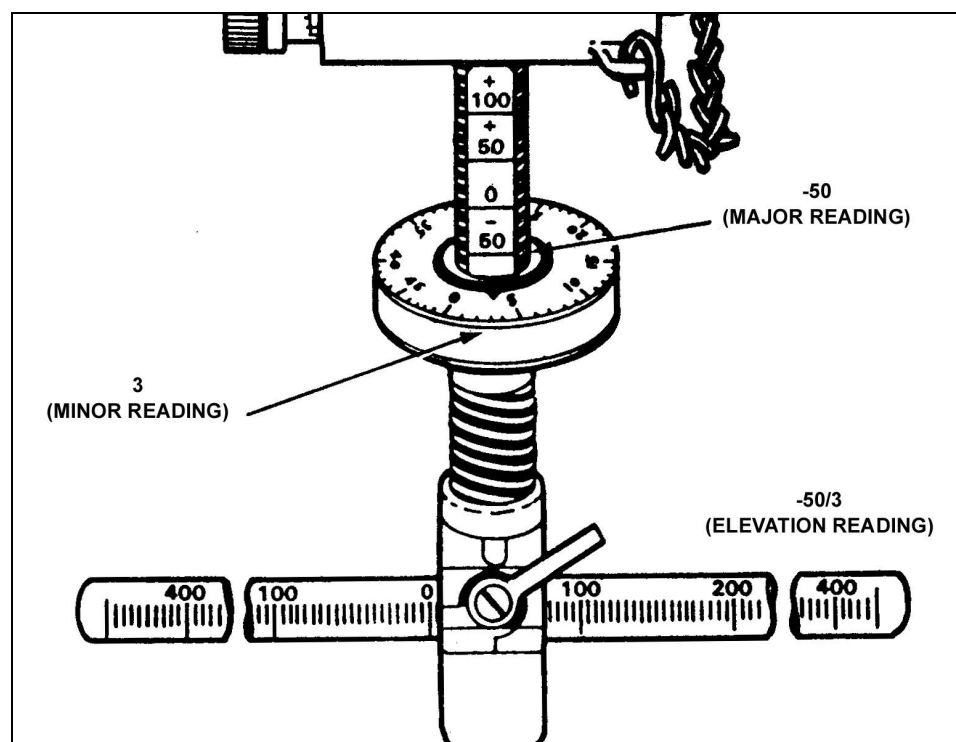

Figure 4-7. Elevation readings.
T&E mechanism so that the eyes are even with the top of the elevating handwheel. The major reading (for example, -50) is the first number, with an index line, that is visible above the handwheel (Figure 4-7).
(2) **Minor Reading.** The elevating handwheel is marked in 50 increments of 1 mil each (Figure 4-7). The minor reading, which has no plus or minus sign, is the number that lines up with the pointer. The minor reading represents the number of mils the gun is laid below the major reading, for example, 3 mils. Verify a direction elevation reading by firing and adjusting on the target. Use the dry-fire method to get data to targets without live firing and adjusting. Set the rear sight on the range to the target, lay the gun on the center base of the target, and take direction and elevation readings. Use the dry-fire method only when firing is not feasible.